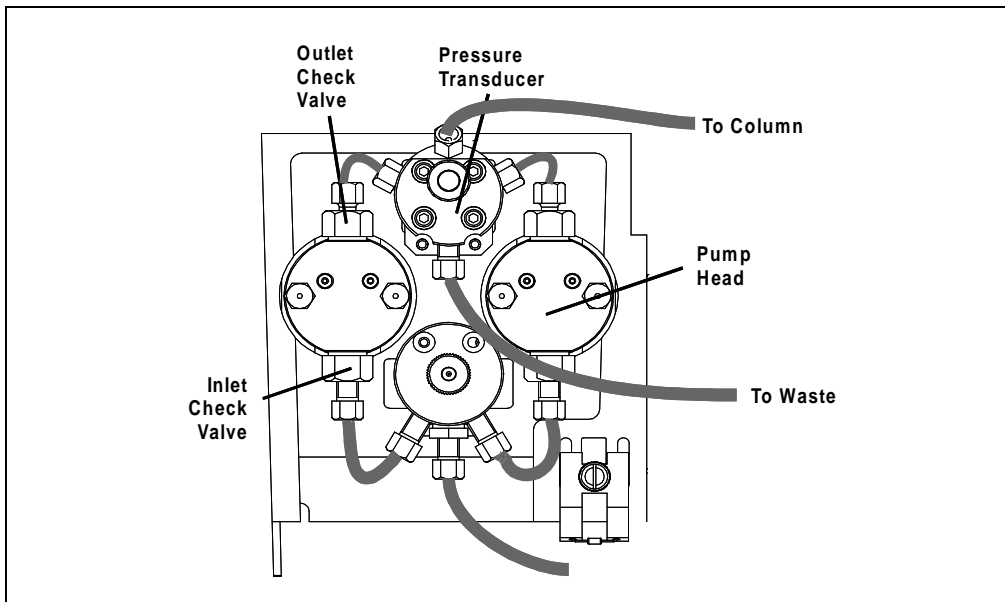

Figure 5-1. Pump Heads and Liquid Lines (PEEK)
2. Disconnect the tube fittings from the inlet and outlet check valve housings (see Figures 5-1 and 5-2).
2. Disconnect the tube fittings from the pressure transducer and the inlet check valve (see Figures 5-1 and 5-2).